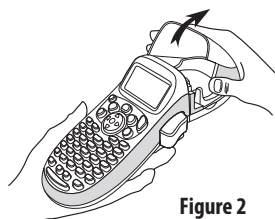

Figure 2
1. Press and release the label cassette cover to open the label compartment. See Figure 2.